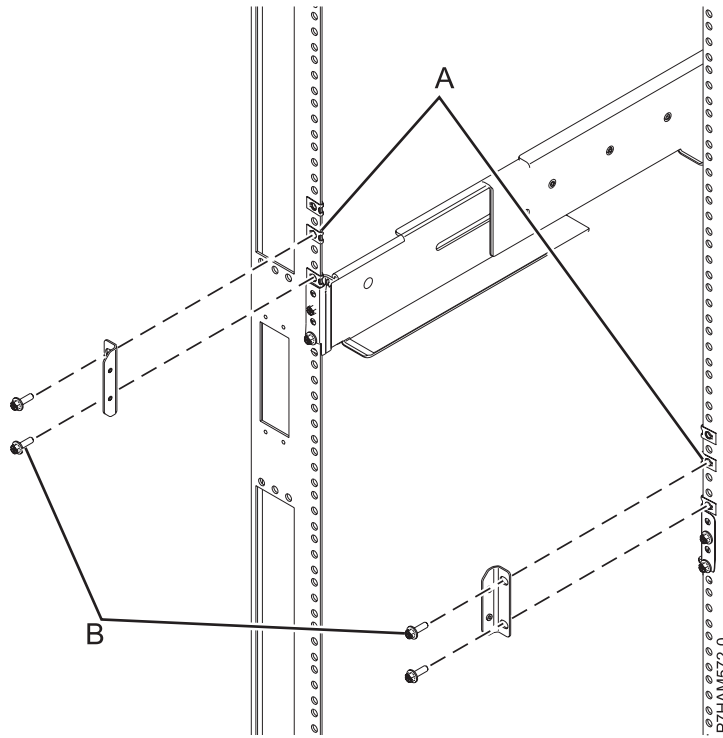

Figure 13. Installing the retention brackets
- m. At the rear of the rack, install retention brackets (**A**) on the left and right rack flanges, as shown in Figure 13 on page 14. Attach each bracket by applying M5 screws (**B**) to the two locations directly above the rail clamp where nut clips have been installed.